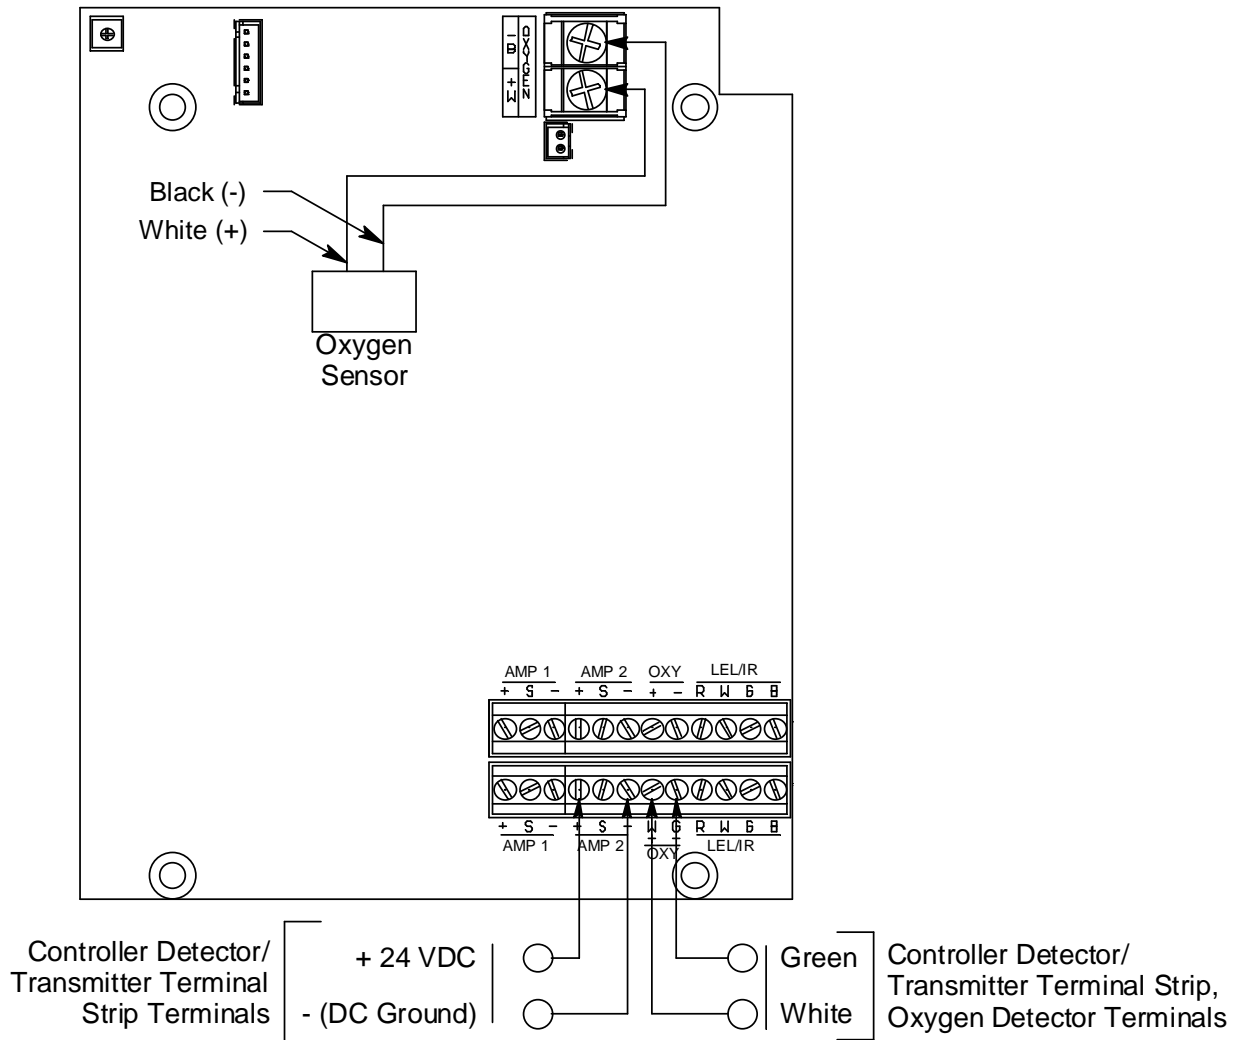

Figure 4: Wiring the Sample-Draw Detector to a Controller
5. Connect the cable to the sample-draw detector’s interconnect terminal strip as shown in Figure 4.
- Connect the wires to the applicable detector/transmitter terminal strip at the controller as shown in Figure 4. Refer to the controller operator's manual and the controller detector head specification sheet for the 35-3001-02 for detector/terminal strip connections specific to the controller.
8. Guide the wires and lugs of the replacement sensor to the oxygen terminal strip and insert each lug into the appropriate terminal. See Figure 4 on page 9 for wiring connections. Tighten the screws on the terminal strip.